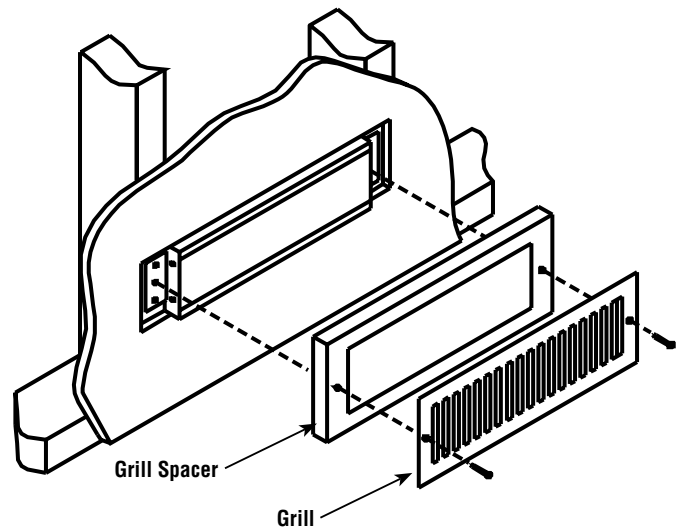

Figure 42
**Grill Installation:** The Grill that covers the fan box is secured with the two white-headed screws provided. When the fan box is mounted in a 2"x4" framed wall the box will extend past the sheetrocked wall into the room. In these installations the Grill spacer should be used (see **Figure 42**).